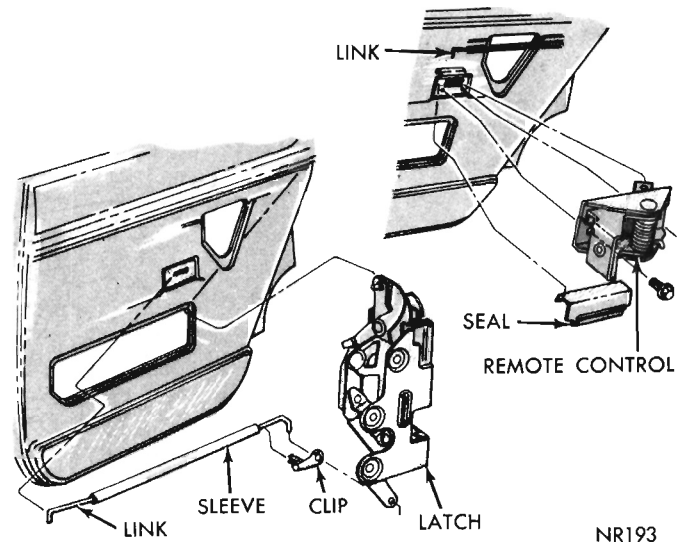

Fig. 22 - Rear Door Remote Control and Latch
(1) With window in the up position, disconnect cylinder link (Figs. 22 and 23) from clip on lock lever (**4 door only**) and from cylinder.
(2) On **2 door models** disconnect lock link from